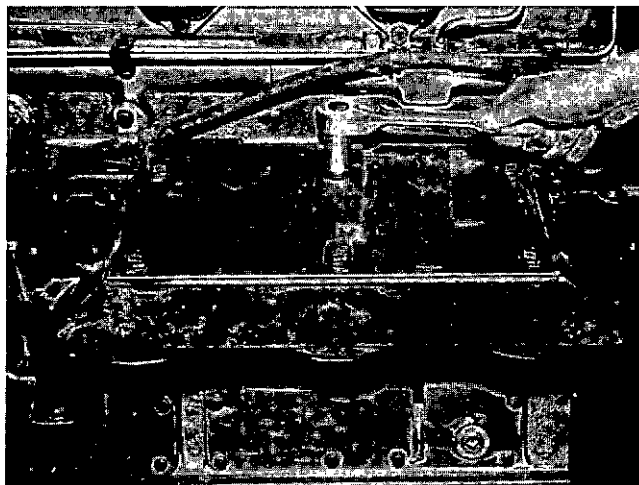

Fig. 0-13, V40045. Removing oil filter head
1. Remove capscrews and lockwashers securing filter head to bracket. Fig. 0-13.